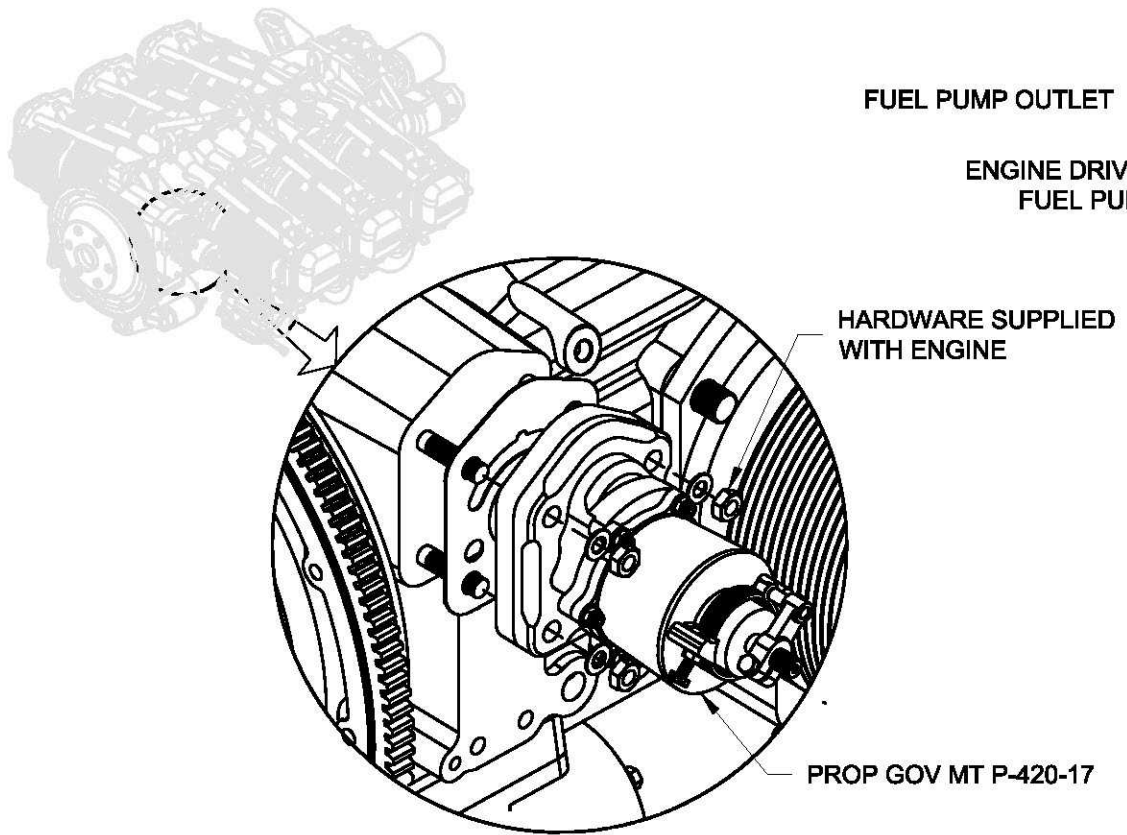

FIGURE 2: INSTALLING THE PROPELLER GOVERNOR
Step 5: Install the PROP GOV MT P-420-17 to the front of the engine per the instructions supplied with the governor. See Figure 2.